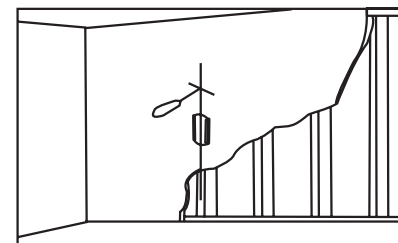

Fig 2b
Using a awl or nail to make where the nails are located, as shown as fig.2b. Distance between two nails for fixing wall mount must not less than 12". Pre-drill these holes with a 5mm drill bit to at least 50mm in deep hole. Please make sure these holes are level and located at center. Use wall mount as a template to mark the location of other three holes and drill the same holes. Fix the wall mount to the wall with 4 long bolts(H) and washers(J).